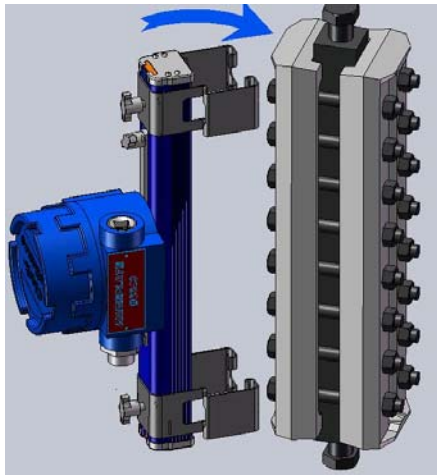
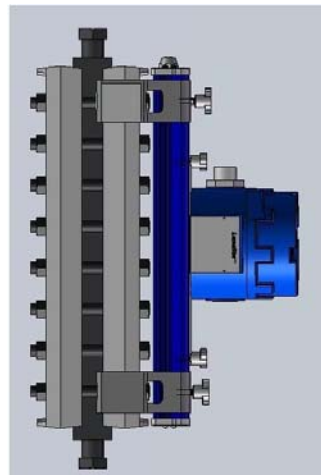

Figure 11
Figure 12
- 2) Align one side of the brackets as shown in Figure 11, so that the clip of the brackets are gripping around the side of the gauge. Roll the entire assembly over until it is flush with the rear flat of the gauge and press until the bracket clips have locked into place as shown in Figure 12.